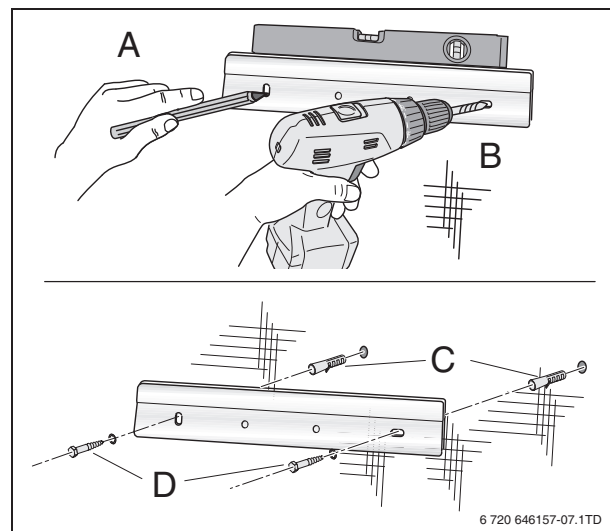

Fig. 7 Installing the wall bracket
- Mark both holes with the wall bracket (fig. 7, page 14) using a spirit level.
- Install the wall bracket with 2 screws (fig. 7, page 14).